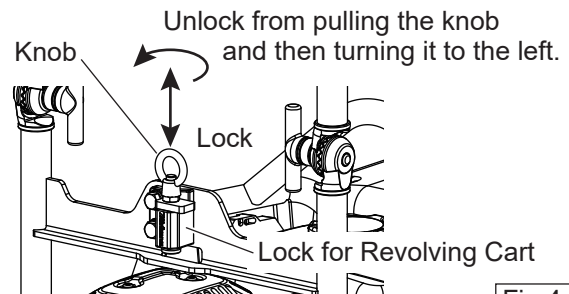

Fig.4
1. Check that the lock for revolving cart lock and unlock certainly. (Fig.4)